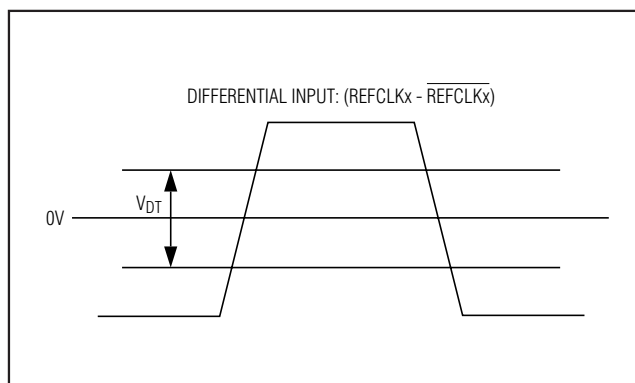

Figure 4. Input Amplitude Detection Threshold
- Input reference clock differential swing is below the clock failure assert threshold as specified in the *Electrical Characteristics*. See Figure 4.